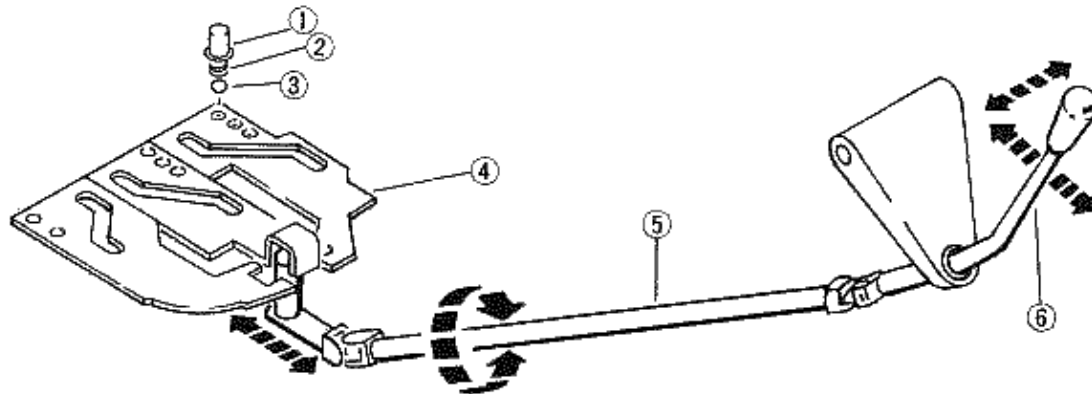

Fig. 6-17 Gear Shift Mechanism
1. The gear shifting mechanism consists of three shift plates, shift forks and shift shafts, which are actuated by the shift lever and rod. A steel ball and spring contact each shift plate insuring a positive shift into each gear. An interlock mechanism acting upon the shift shafts prevents engagement of more than one gear at a time. (See Fig. 6-17.)